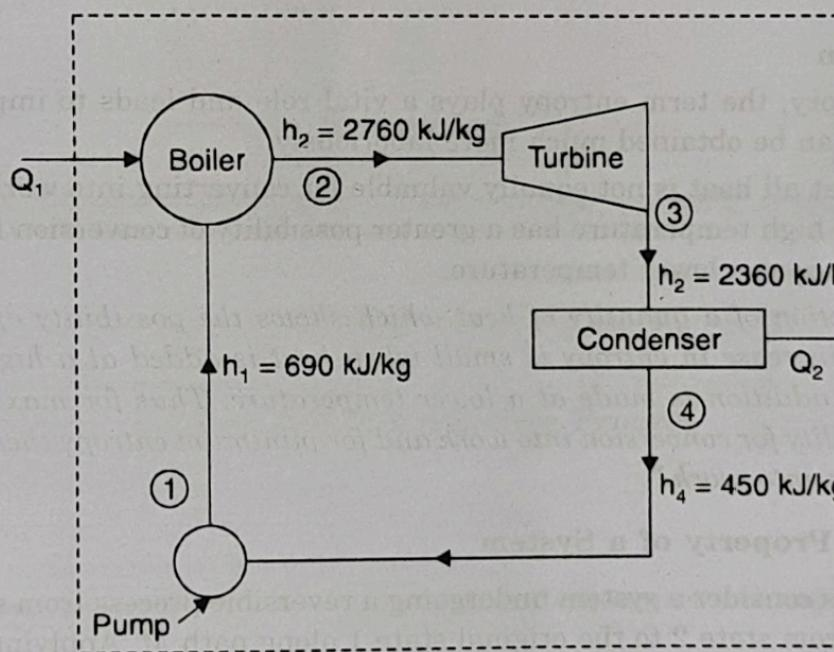

Fig. 20
**Example 20.** In a power plant cycle, the temperature range is  $164^{\circ}\text{C}$  to  $51^{\circ}\text{C}$ , the upper temperature being maintained in the boiler where heat is received and the lower temperature being maintained in the condenser where heat is rejected. All other processes in the steady flow cycle are adiabatic. The specific enthalpies at various points are given in Fig. 20.